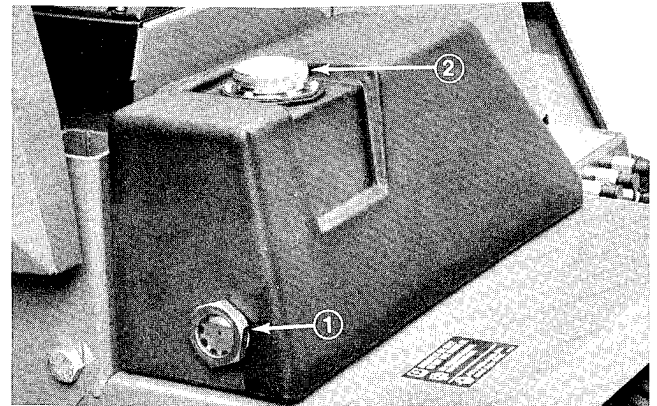

Figure 5
1. Fluid level should be checked daily through sight glass at rear of hydraulic reservoir (Fig. 5). When oil is cold, level will be slightly below center, but should be in the middle of the sight glass when the oil is warm.
2. If oil level is low, add hydraulic oil to the reservoir (Fig. 5); refer to Machine Fluid Recommendations, page 8.